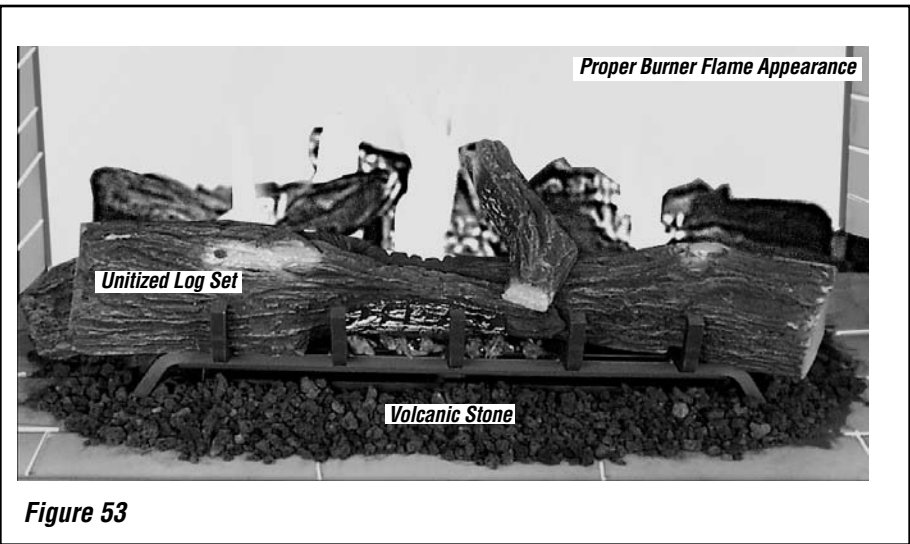

Figure 53
- b. Place the log set so that the four inner notches on the underside of the log set fit over the four risers located on the burner ends. See *Figure 53*. This procedure is accomplished primarily by feel, as the log set masks the burner risers as it is being installed.
- c. As a final check for correct log set placement, check that the four outer notches on the underside of the log set fit over the burner times as indicated in *Figure 53*.